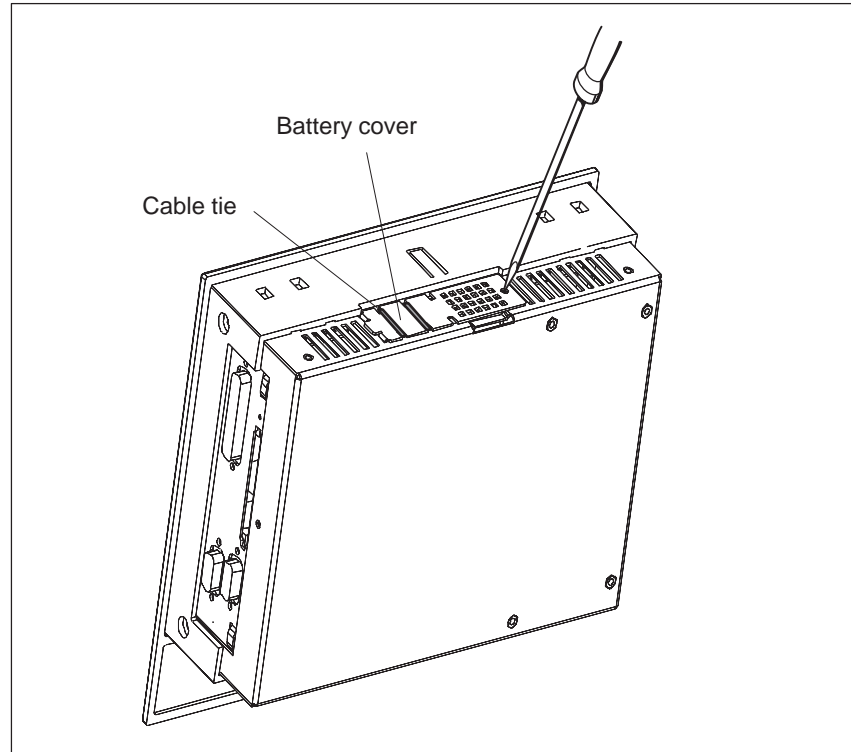

Figure 11-1 Removing the Cover of the C7-633 DP
1. Unscrew the cover of the C7 battery compartment (see Figure 11-1).